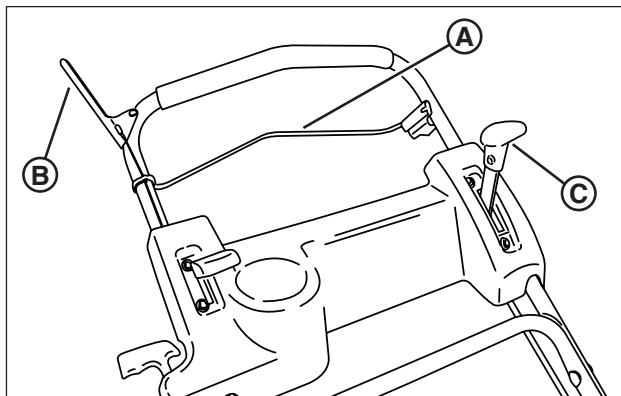

Figure 1: Mower controls
2. Check the blade control **(A, Figure 1)**, drive control **(B)**, and ground speed control **(C)** to insure they work freely.